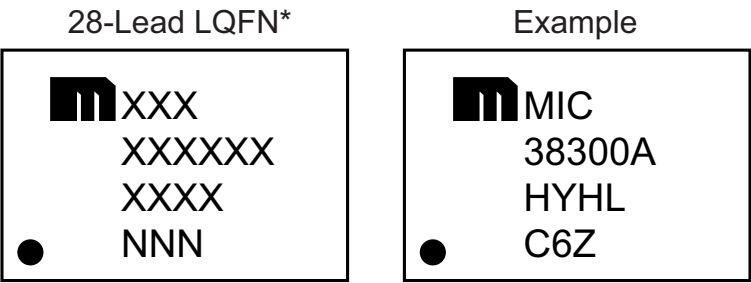

**FIGURE 5-2:** Current-Sharing Circuit for 6A Output.
Figure 5-2 allows two MIC38300A regulators to share the load current equally. Regulator1 senses the output voltage at the load, on the other side of a current sense resistor. As the load changes, a voltage equal to the output voltage, plus the load current times the sense resistor, is developed at the  $V_{OUT}$  terminal of Regulator1. The op-amp (MIC7300) inverting pin senses this voltage and compares it to the voltage on the  $V_{OUT}$  terminal of Regulator2.
- Updated Figure 5-2 to improve clarity.